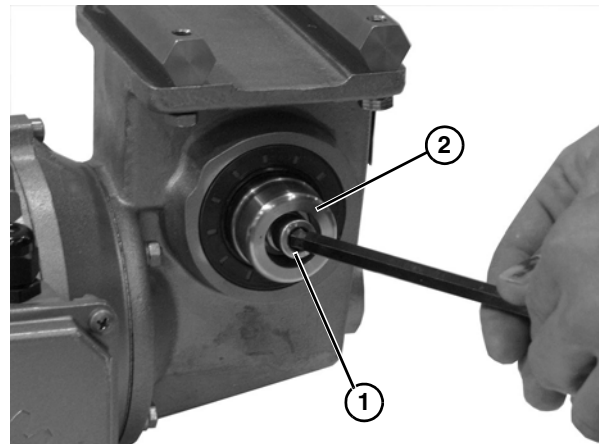

Figure 57
- Remove the plastic cap on the end of the motor and remove the socket head screw (**Figure 57, item 1**) and the bore plug (**Figure 57, item 2**).